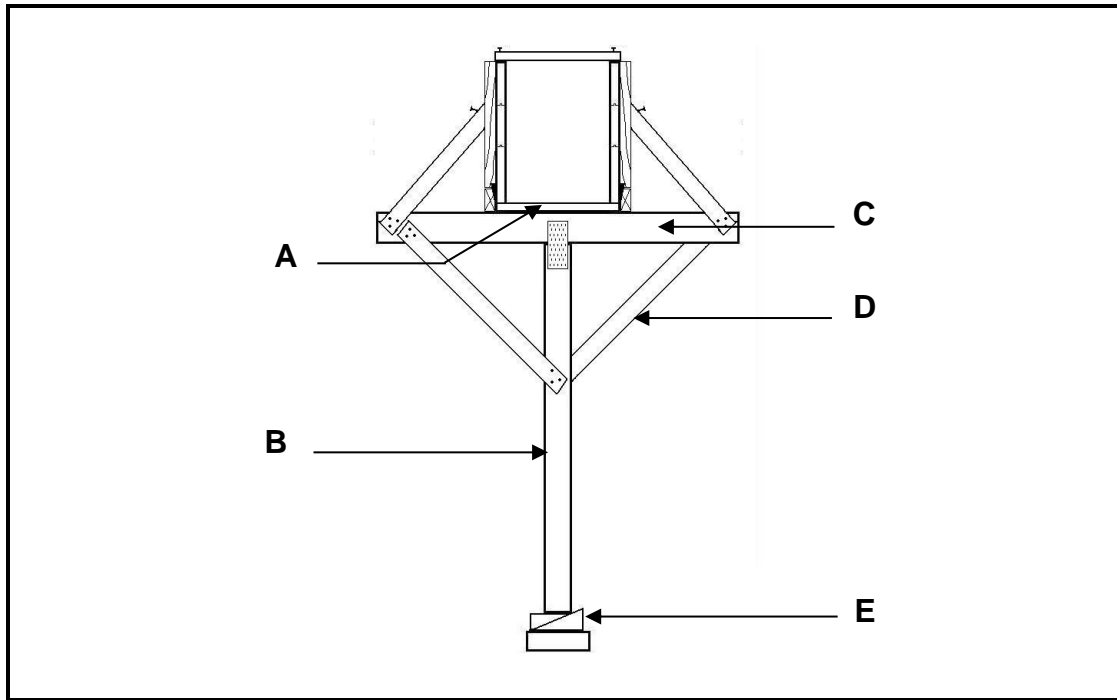

FIGURE 6.3
- 6.3 **Answer** the **questions** with regard to the **formwork** in FIGURE 6.3.